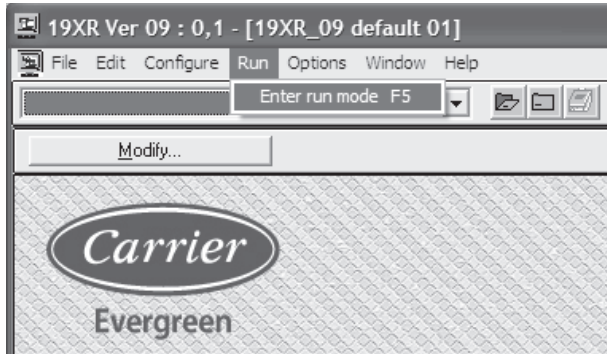

Fig. 25 — Enter Run Mode
34. The Run mode can now be selected for the workspace just created (Fig. 25). Select the “Run” tab, then “Enter run mode.”